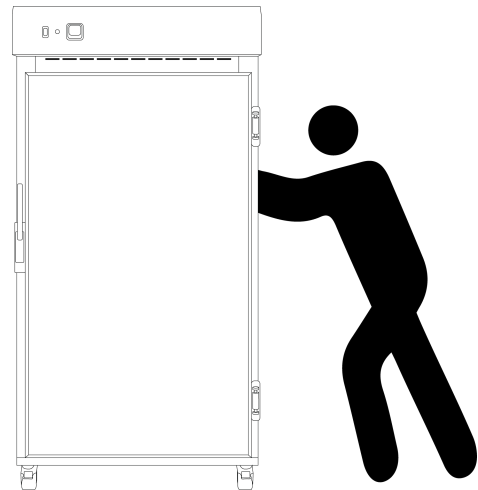

Fig 3. Safe moving of cabinet.
**NOTE:** Laboratory ovens are 'Top Heavy'. Do not move the cabinet too quickly. (**Fig 3 & 4**)